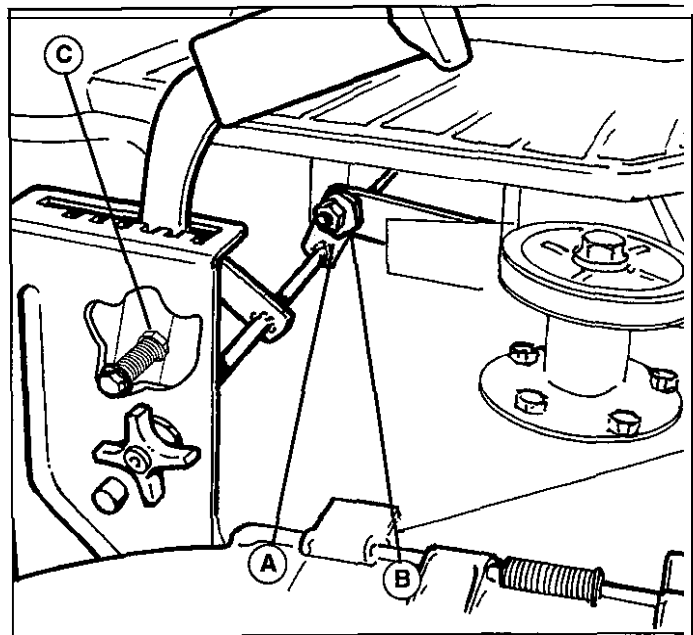

Figure 27. Front-to-Back Adjustment Nut
8. See figure 27. Loosen the outside nut (A) and turn the eccentric nut (B) to raise or lower the rear of the
*NOTE: If mower handle drops out of cutting height quadrant, turn adjustment nut (C, figure 27) clockwise to increase spring tension. DO NOT tighten nut **all** the way so that spring is solid.*